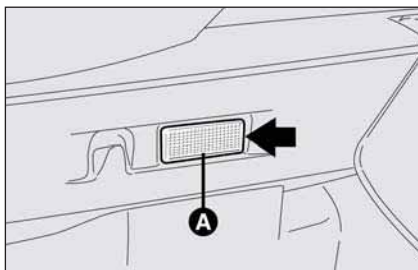

fig. 41
- ☐ remove the light unit **A**-fig. 41 levering in the point shown by the arrow.
- ☐ refit the light unit **A**-fig. 41 inserting it in its correct position firstly on one end and then on the other until it clicks into place.